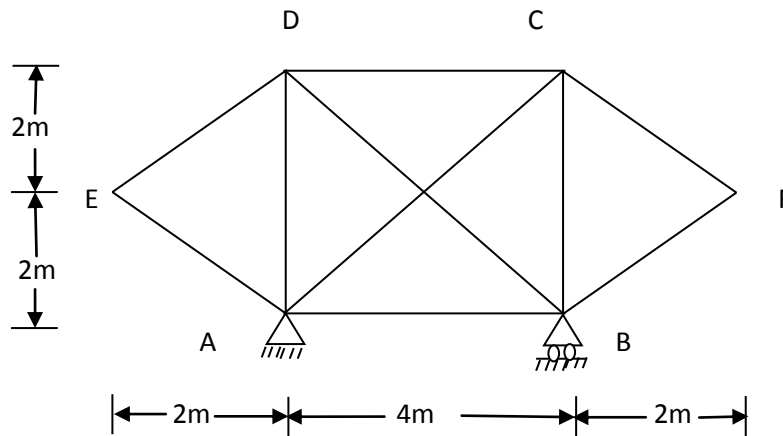

Fig.4
Q.5 In the plane braced frame shown in fig4 all the member have same cross sectional area at  $800 \text{ mm}^2$  and are made of same material .The member AC in the frame was initially short by  $2.5 \text{ mm}$ -Determine forces in each member. 15